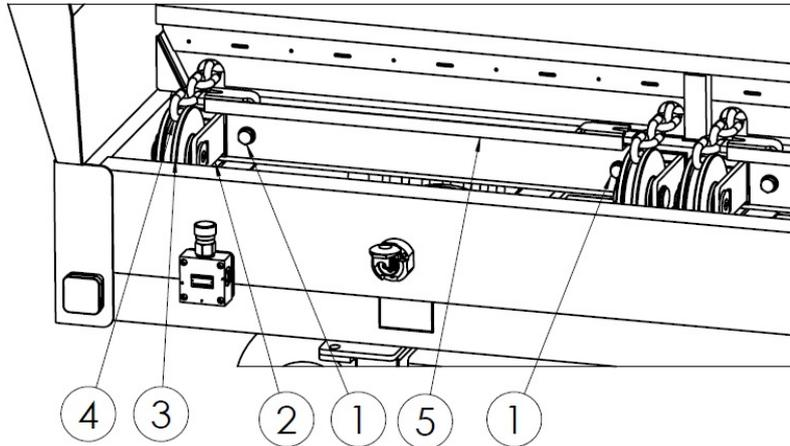

Figure 27. Tensioning the chains of the floor conveyor:
Check the tensioning of the floor conveyor chains during operation daily, especially during the initial period of operation. Carry out the tensioning of the conveyor chains by adjusting screws at the front of the spreader body - Figure 27. To increase chain tension, tighten the adjusting screws (1) so that the tensioner slider (2) and the pulley (3) move forward. Follow the tensioning procedure for both pairs of chains (4), ensuring that their tension is equal.